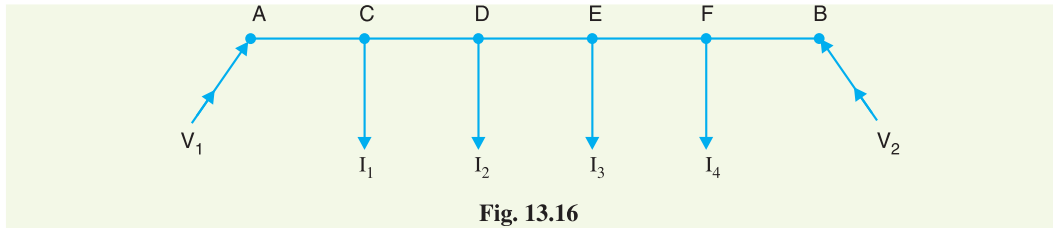

Fig. 13.16
- (ii) **Two ends fed with unequal voltages.** Fig. 13.16 shows the distributor AB fed with unequal voltages; end A being fed at V_1 volts and end B at V_2 volts. The point of minimum potential can be found by following the same procedure as discussed above. Thus in this case,